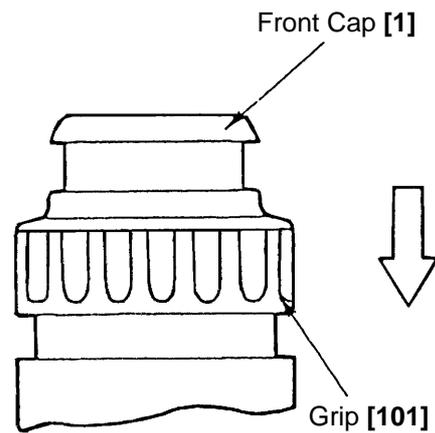

Fig. 16
(3) Disassembly of the chuck section
As shown in Fig. 16, slide the Grip [101] in the direction indicated by the arrow, and remove the Front Cap [1]. The Grip [101], the Ball Holder [102] inside the Grip, the Holder Spring [4], Washer (B) [5] and the Steel Ball D7.0 [18] can then be removed from the Cylinder [111].